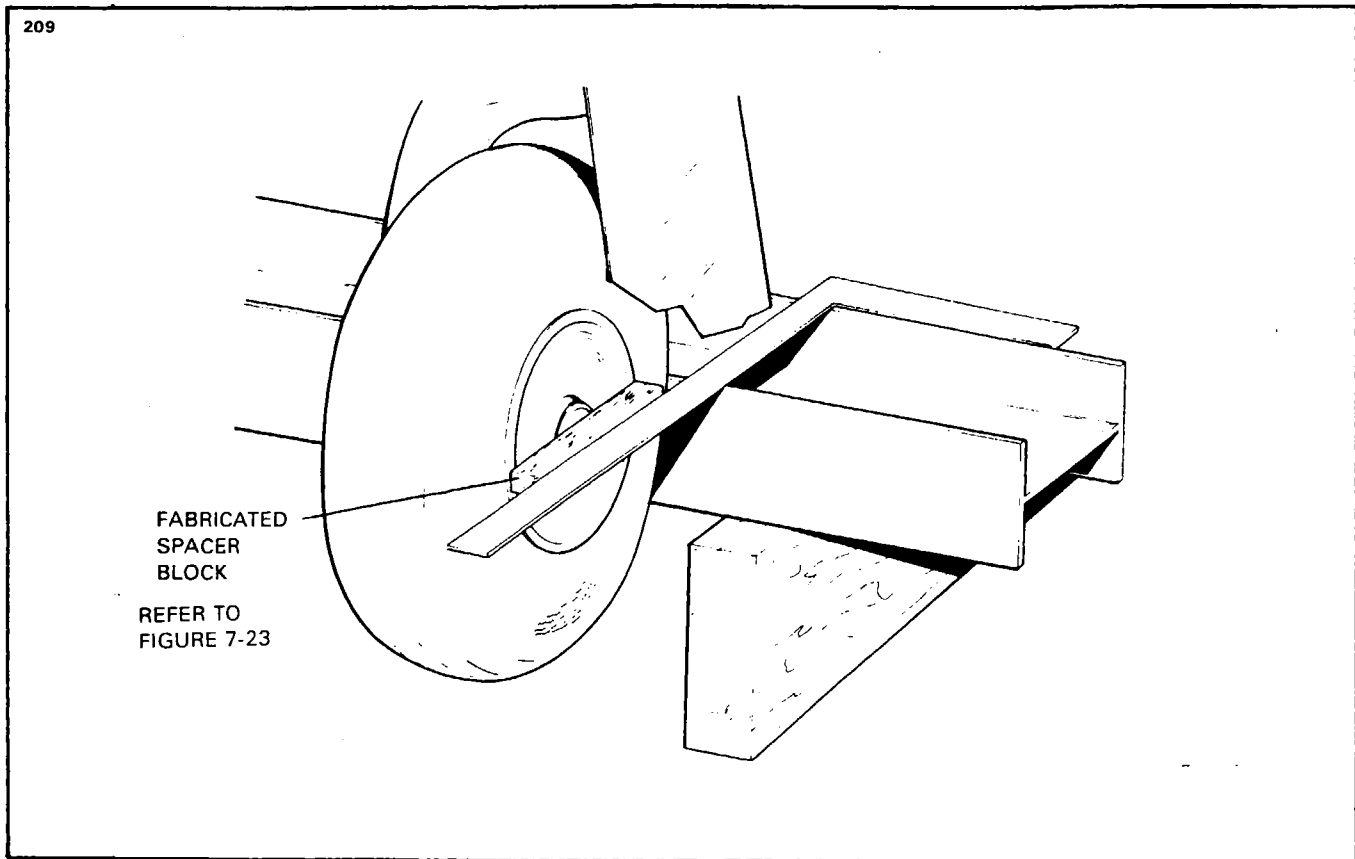

Figure 7-9. Aligning Main Gear
b. Place a spacer block against the wheel rim at the hub line, with the wide end toward the front of the wheel to check and/or adjust the landing gear for proper toe-in of .5 degree. (Refer to Figure 7-9.) Set a square against the straightedge and spacer block and check to see if its outstanding leg bears against the spacer block. (A spacer block may be fabricated according to Figure 7-23.)